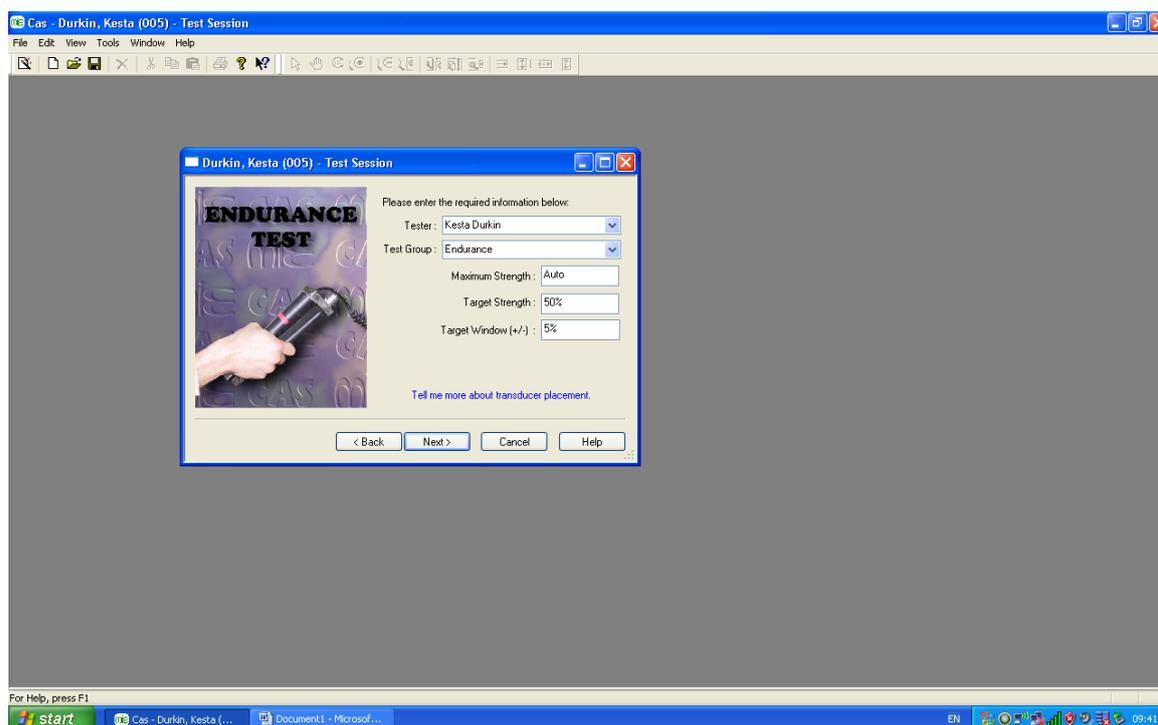

Figure 5.
[For use by the EPI-HIP study, make the measurements on the non-dominant side and use the default settings as shown in figure 5 below: *Maximum Strength* – is set to auto; *Target Strength* – is set to 50%;and *Target Window* – is set to 5%].
3. The “Endurance Test” wizard appears (figure 5).
4. Make sure that the information entered into the type boxes is correct and then click “next” (figure 5).